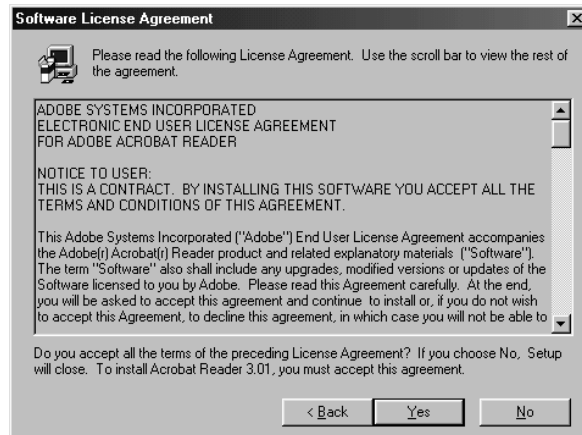

Figure 7: License Agreement
2. Click on 'Next' to continue. Figure 7 will pop up.
3. Click on 'Yes' to accept the License Agreement (Figure 7) and to continue with the installation.